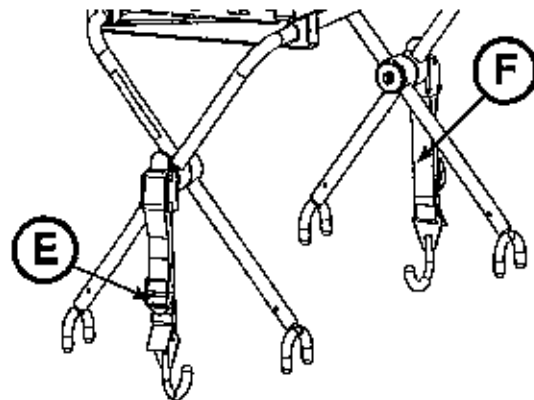

Figure 84
- If the defibrillator platform is not securely attached to the cot when both latch hooks are engaged or if you cannot secure the latch hooks around the cot litter frame, unfatch the tab (E), loosen or tighten the strap (F) until the proper adjustment is achieved, and then push the tab (E) up until it locks into place with an audible click (Figure 84).